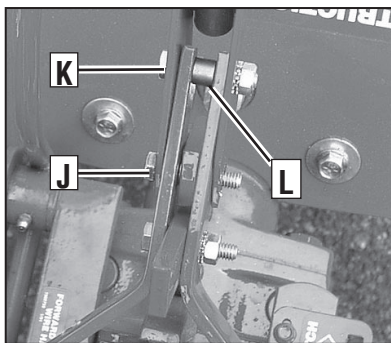
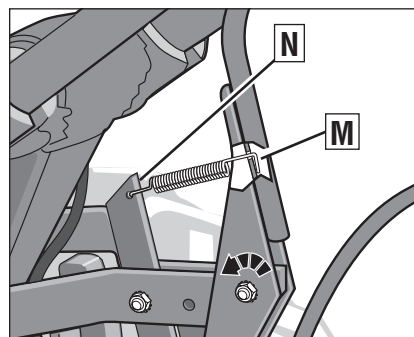
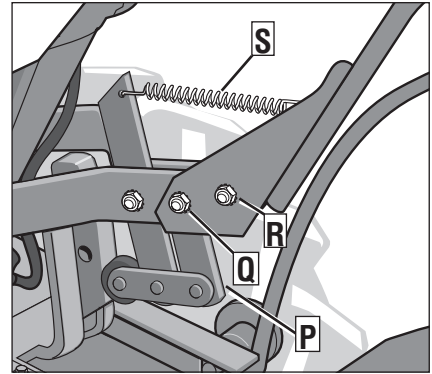

Figure 2-7: Drive Lever assembly.
Figure 2-8: Clutch pawl spring. Tilt Wheels/Tines/PTO Lever fully forward before installing spring.
Figure 2-9: Fully assembled Wheels/Tines/PTO Lever assembly.
3. Slide the plates at the end of the Wheels/Tines/PTO Lever over the yoke plates (Figure 2-9). To aid in the next step, insert a screw temporarily into the forward most holes (J, Figure 2-7) of the yoke plates and the lever.
5. Retrieve the clutch pawl spring (Figure 2-8) from hardware bag.
Remove the temporary screw (J, Figure 2-7) from the forward holes and move the Wheels/Tines/PTO Lever fully forward. Install the wider hook end of the clutch pawl spring (M, Figure 2-8) down into the small hole at the end of the handle. Use pliers to insert the other end into the hole in the long link bar (N).
6. Pull the Wheels/Tines/PTO Lever back to align the forward most holes (Q, Figure 2-9) in the yoke plate with the holes in the lever plates. Also align the bushing that is inside the short link bar (P). Install the screw, star washer, and nut, then tighten securely.
Securely tighten all other hardware (Q, R, Figure 2-9). Also ensure that the spring (S) is properly seated at both ends. Completed assembly should appear as illustrated in Figure 2-9.